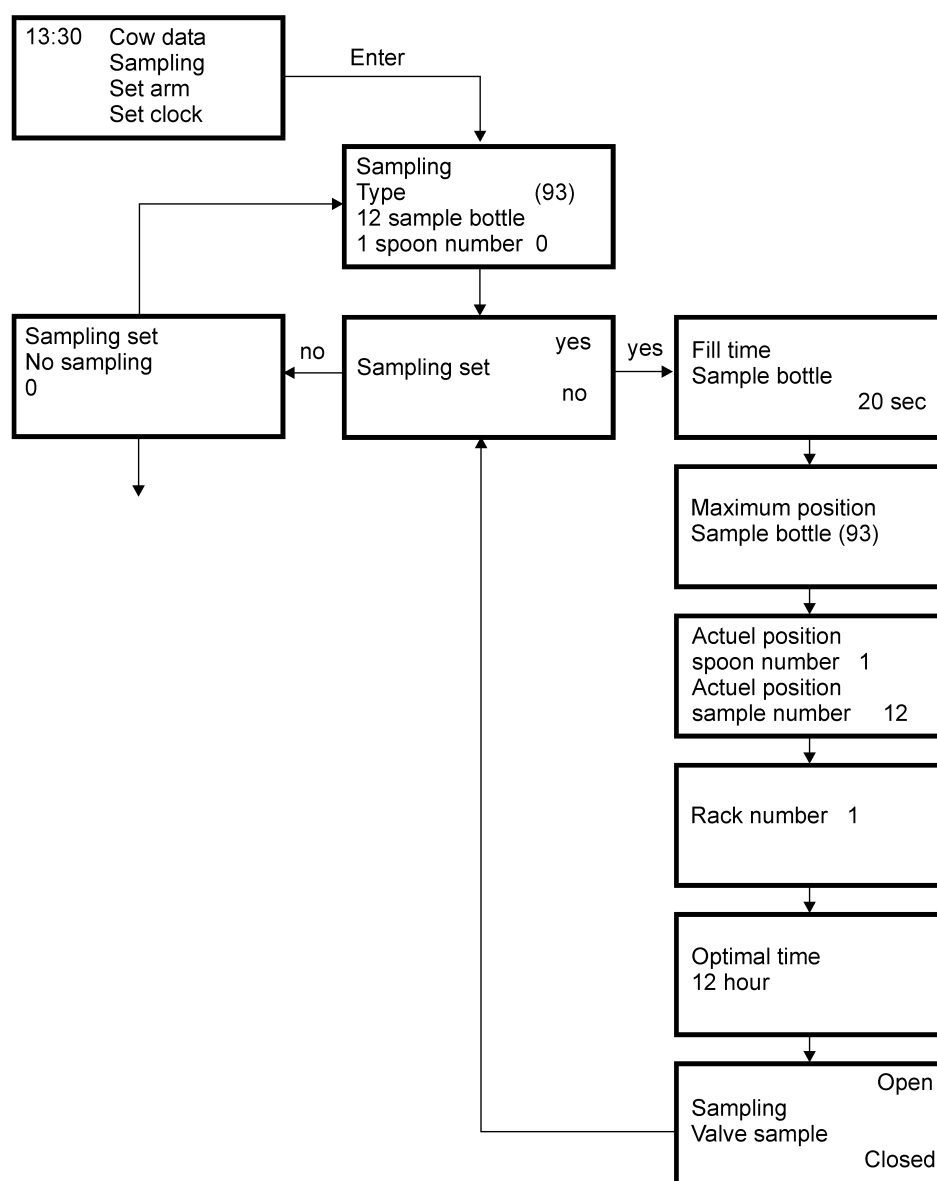

Figure 3.1 Sampling procedure flowchart
- **Fill time sample bottle** (figure 3.1):
After selecting a certain procedure for sampling (figure 3.1), i.e. 1 sample, 2 sample or optimal, the milking robot must communicate with the VCPC (Cattle Code Process Controller) based on the preset settings.